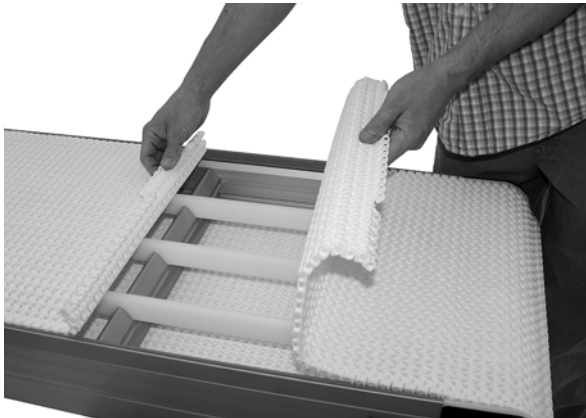

Figure 15
7. Bring the ends of the belt together (**Figure 15**).